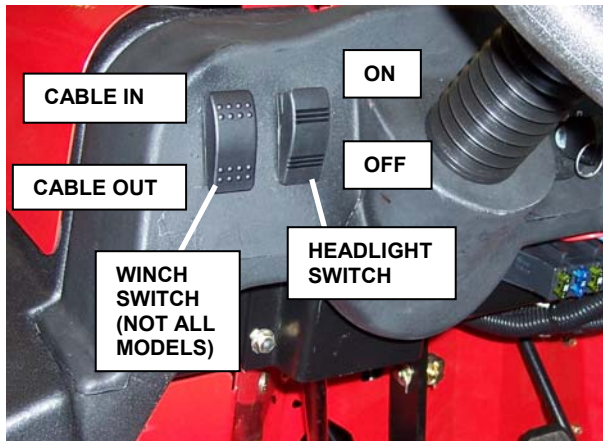

FIGURE 2.5
2.2.9. Headlights. The headlights are controlled by a rocker switch, located on the dash to the immediate left of the steering wheel. See Figure 2.5. Push the switch up to turn the headlights on. Push the switch down to turn the headlights off. Note: The engine ignition switch must be in the “RUN” position for the headlights to operate. Repair non-functional headlights before operating machine and keep lenses clean.
2.2.15. Warn™ Electric Winch (not on all models). The winch switch is located on the dashboard next to the headlight switch, to the left of the steering wheel. Pushing the switch down lets cable out; pushing the switch up pulls cable in. See Figure 2.5. Refer to manuals supplied with literature package for comprehensive instructions on safe use and maintenance of electric winch.